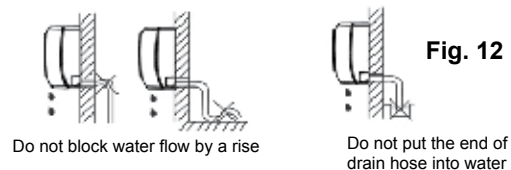

Fig. 12
- Run the drain hose sloping downward. Do not trap the drain hose. Do not install the drain hose as illustrated in Fig.12.